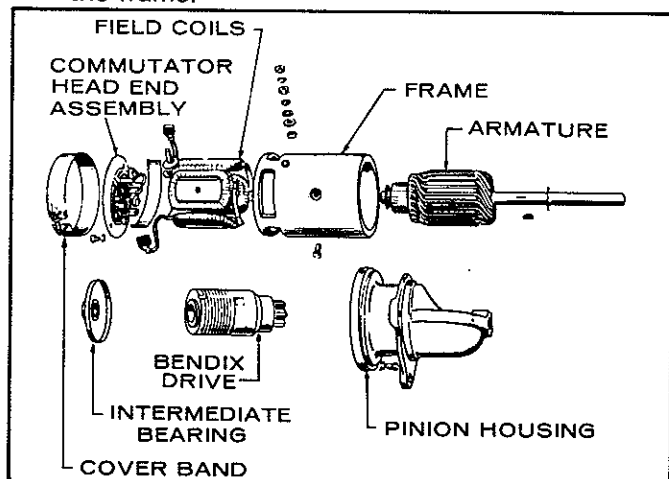

FIGURE 18-11. BENDIX DRIVE STARTER
5. On the bendix drive starters, the entire assembly mounts on the armature shaft (Figure 18-11). When disassembling the bendix starter, pay particular attention to the various parts and their positioning in the starter assembly. If the gears of the bendix pinion are damaged, replace the entire pinion. Inspect the screw shaft for rust and burrs.